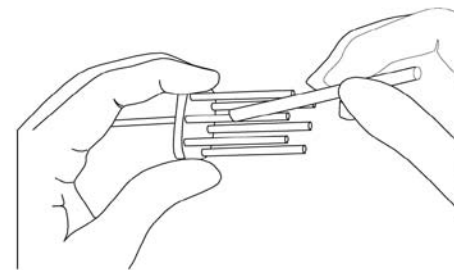

Figure F.1.3c: Re-lubricating 125 - 12.5 μ l Pipettors
- 125 μ l, 30 μ l, 12.5 μ l Pipettors: Spread the lubricant directly onto the pistons, approximately 0.5 inches (approx. 1.3cm) from the bottom of each piston (see Figure F.1.3c).